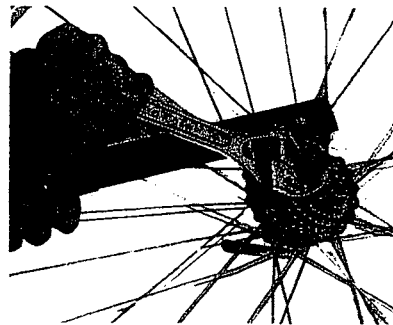

Fig. 18
Step 5 - Use an adjustable wrench to loosen the lockring. Turn the wrench counter-clockwise while holding the cassette with the chain whip (figure 18).